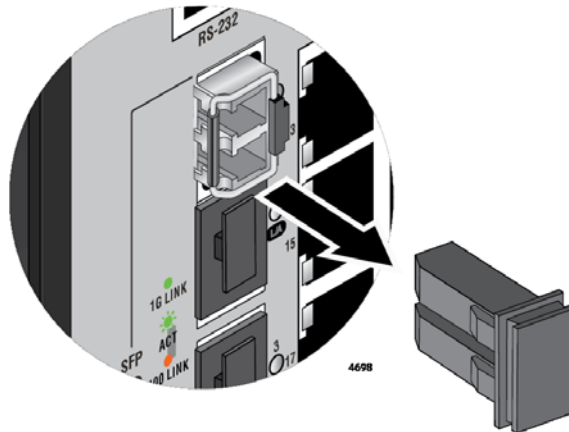

Figure 31. Removing the Dust Cover from an SFP Transceiver
4. Remove the dust cover from the transceiver. Refer to Figure 31.